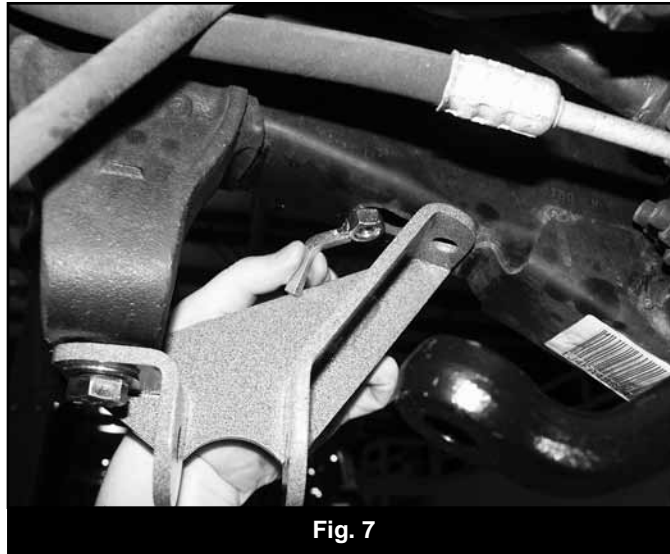

Fig. 7
14. With the hole position marked for the track bar bracket, rotate the bracket out of the way and drill a 7/16" hole at the mark. Only drill through the bottom surface of the frame. Attach the track bar bracket to the bottom of the frame (Fig 7) through the new hole with a 7/16" x 1-1/4" bolt, 7/16" SAE washer (BP 753) and provided nut tab (01356). Use Loctite on the bolt threads. Leave hardware loose.